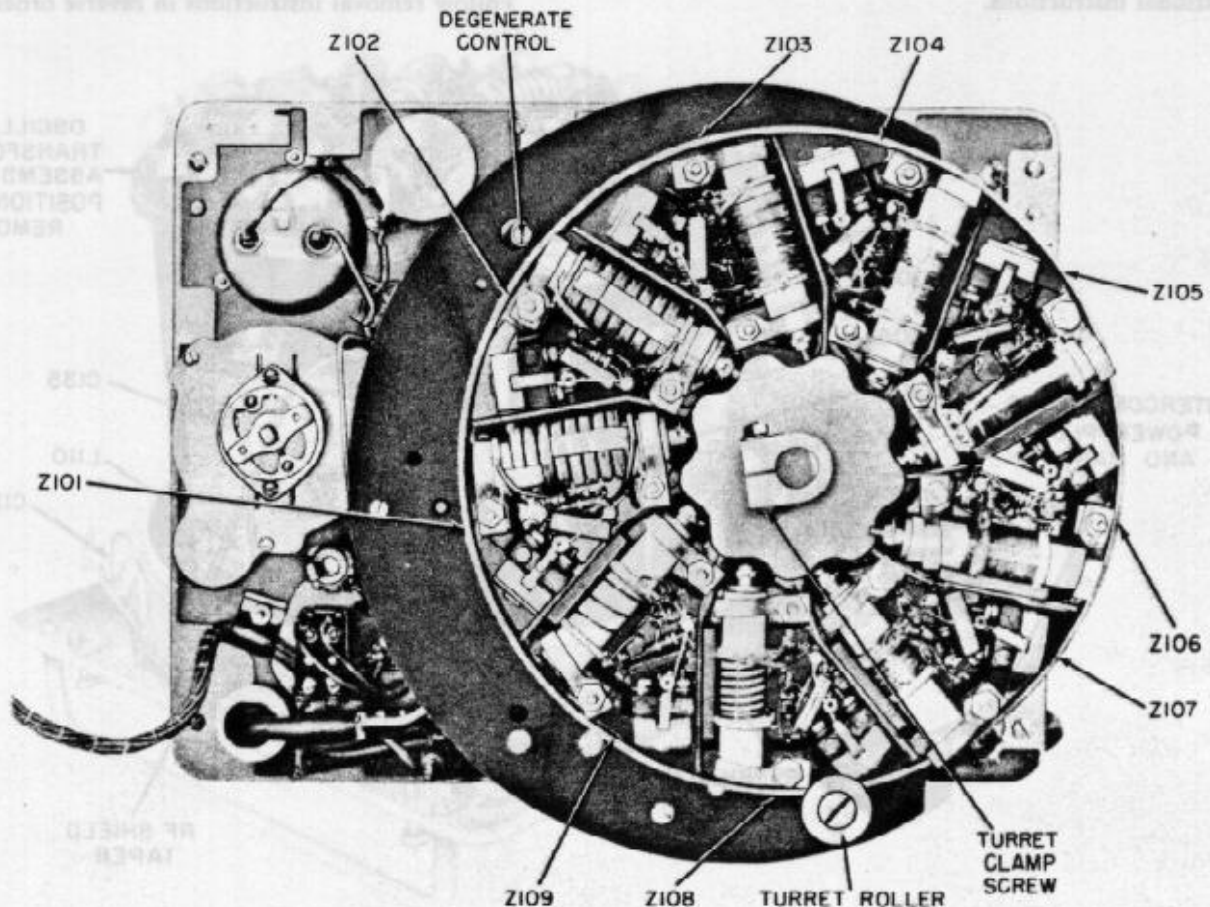

Figure 7-5. Oscillator Coil Turret
(1) Remove the signal generator from its case. See paragraph 7.
(2) Remove the RF shield assembly. See paragraph 7.
(3) Position the signal generator chassis face down and allow it to rest on the front panel handles.
(4) Loosen turret clamp screw. (See figure 7-5.)
(5) Remove turret roller and screw. (See figure 7-5.)
(6) Lift up turret assembly.
- (7) Tighten one set screw in coupling.
- (8) Turn frequency knob clockwise 8 divisions.
- (9) Loosen set screws in coupling.
- (10) Turn frequency knob fully counterclockwise.
- (11) Retighten both set screws in coupling.
- (12) Continue reassembly in reverse order of removal.
- (13) Recalibrate all frequency bands. (See paragraph 15.)
15. READJUSTMENT OF FREQUENCY CALIBRATION. (See figure 7-5.)